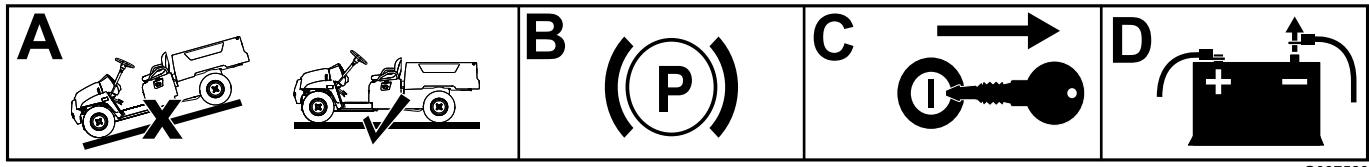

Figure 1
1. Move the machine to a level surface (box A of Figure 1).
2. Engage the parking brake (box B of Figure 1).
3. Remove the key from the ignition switch (box C of Figure 1).
4. Remove the negative battery cable from the battery (box D of Figure 1).